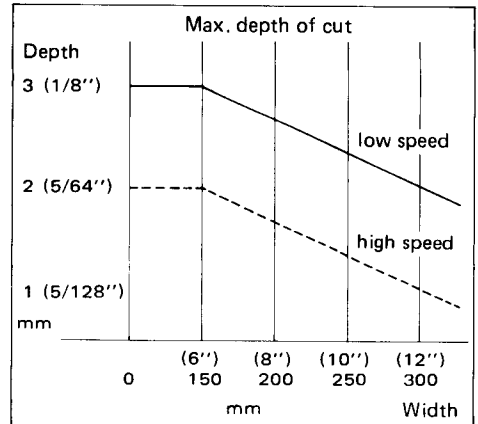

Fig. 1
- The maximum depth of cut changes in terms of the cutting speed and the width of the workpiece to be cut. See Fig. 1.